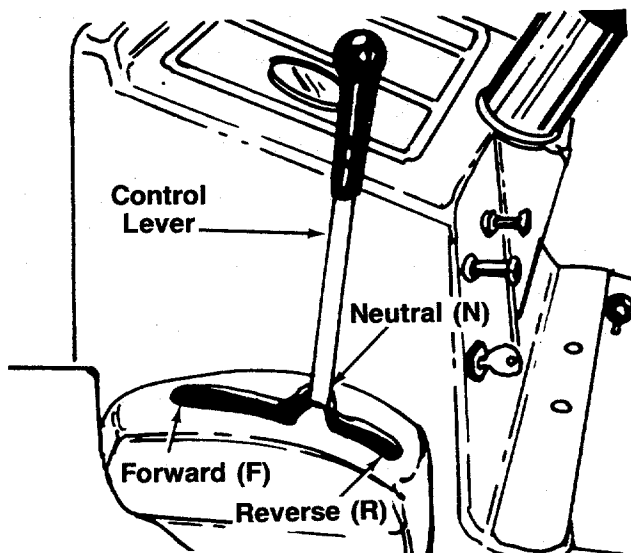

FIGURE 14.
The brake pedal is located on the right side of the tractor. Depressing the brake pedal operates the brake. It is used for emergency stopping only. When you depress the brake pedal, the control lever will return close to the NEUTRAL position. The control lever is used for normal stopping. See figure 14.
The control lever is used to regulate the ground speed of the tractor. Moving the control lever to its extreme position makes the tractor travel faster. Moving the control lever forward (F) moves the tractor forward. Moving the control lever backwards (R) reverses the tractor. See figure 14.
If the hydrostatic control lever does not return to the neutral notch on the hydrostatic control lever guide when the brake pedal is depressed (see figure 14) make the following adjustment: